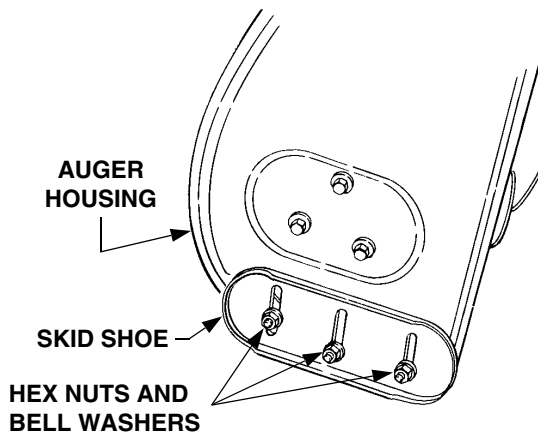

Figure 24
- Loosen the hex nuts and bell washers securing the skid shoes to the housing. Refer to Figure 24.